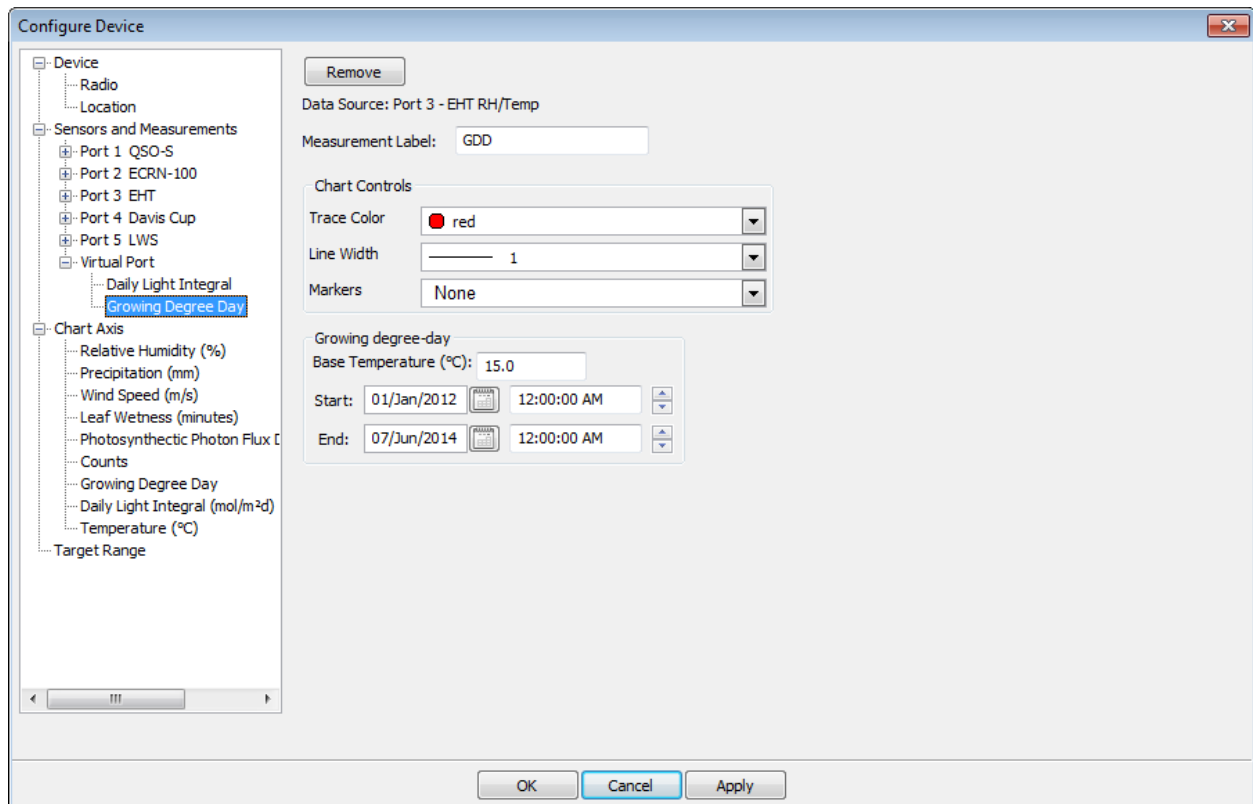

Figure 12. A Growing Degree Day (GDD) growing tool with base temperature of 15 °C.
- For many of these tools, there is a need to also supply additional information for the calculations to work properly. If prompted, enter any additional information (Figure 12).